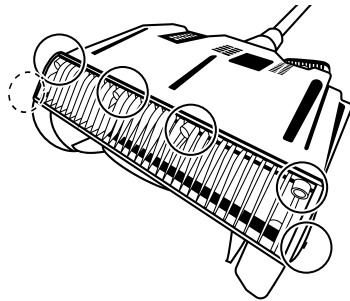

Fig. G1
1. Place the snow shovel on the ground or on a work bench. Turn the snow shovel over. Using a suitable screw driver (not supplied) to remove the 6 screws that secure the scraper blade to the base of the unit. (See Fig. G1)